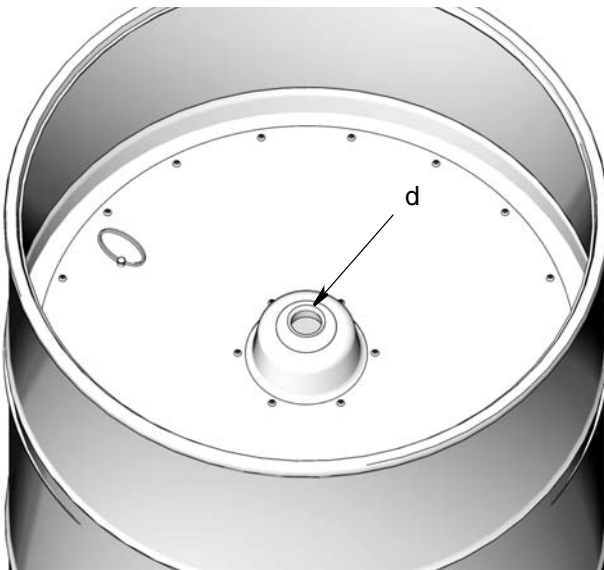

FIG. 8
6. Set follow plate on top of fresh grease (FIG. 8). Remove air by pushing on the follow plate until the grease level is flush with the opening in the middle of the follow plate (d).